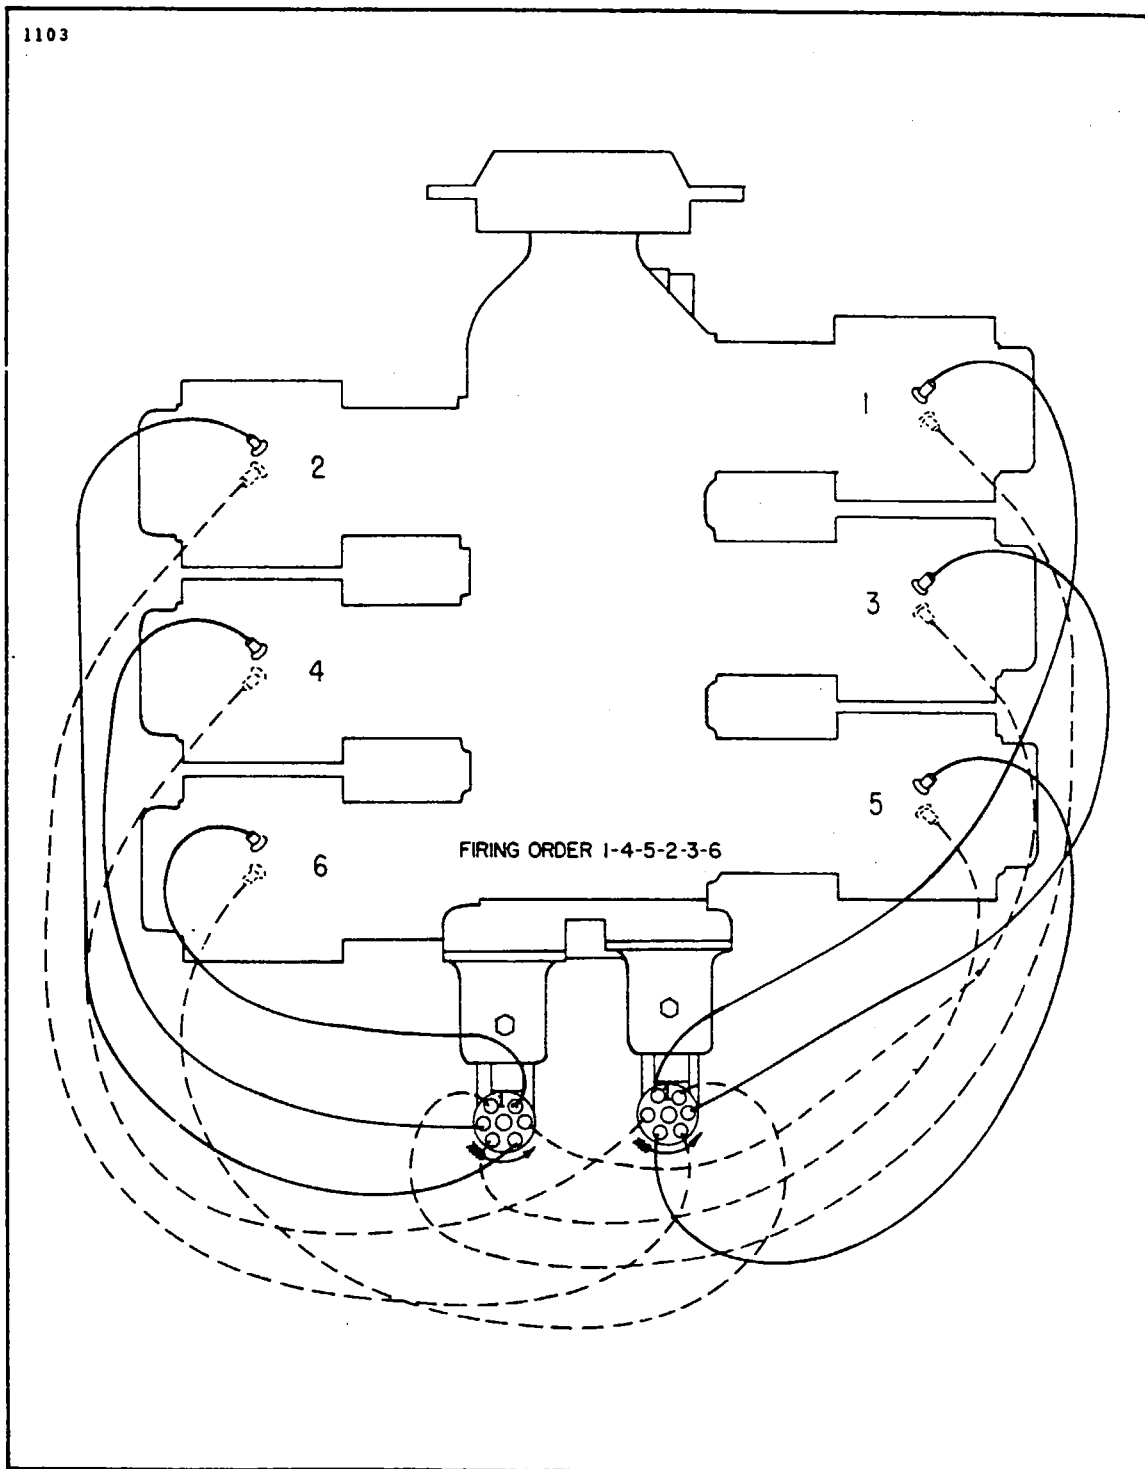

Figure 8-30. Ignition System Schematic (PA-31 Turbo)
- b. Route ignition wires to their respective cylinders as shown in Figure 8-30.